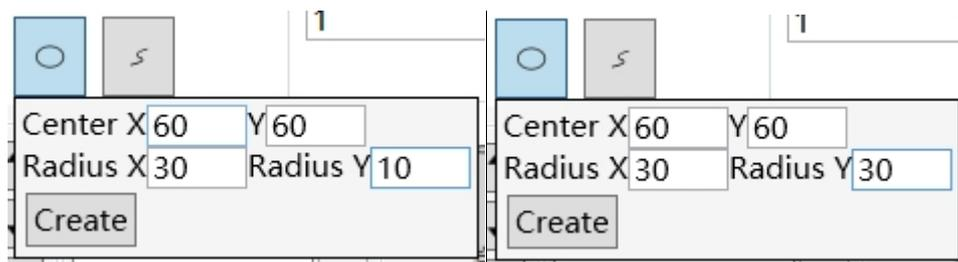

Fig. 4.3.4d Pop-up Window for Creating an Ellipse (Circle)
② Right-click to open the coordinate input window, and pop up the center X, Y coordinates and X radius, Y radius input box. Enter the coordinates and the values of X radius and Y radius in the box. After clicking "Create", the corresponding ellipse will be generated according to the set parameters. If you want to generate a circle, you need to ensure that the values of X radius and Y radius are the same. As shown in Fig. 4.3.4d and 4.3.4e below